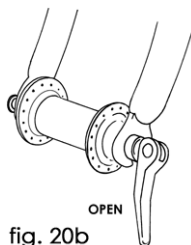
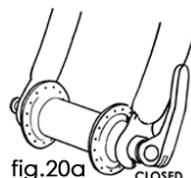

fig. 20b
fig. 20a
(2) Move the wheel's quick-release lever from the locked or CLOSED position to the OPEN position (figs. 20a & b).
(3) If your front fork does not have a secondary retention device go to step (5).
(4) If your front fork has a clip-on type secondary retention device, disengage it and go to step (5). If your front fork has an integral secondary retention device, loosen the tension adjusting nut enough to allow removing the wheel; then go to the next step.
(5) Raise the front wheel a few inches off the ground and tap the top of the wheel with the palm of your hand to knock the wheel out of the fork.
(1) Move the quick-release lever so that it curves away from the wheel (fig. 20b). This is the OPEN position.
(2) With the steering fork facing forward, insert the wheel between the fork blades so that the axle seats firmly at the top of the slots which are at the tips of the fork blades — the fork dropouts. The quick-release lever should be on the left side of the bicycle (fig. 20a & b). If your bike has a clip-on type secondary retention device, engage it.
(3) Pull the derailleur body back with your right hand.
(4) Move the quick-release lever to the OPEN position (fig. 20b).
(5) Lift the rear wheel off the ground a few inches and, with the derailleur still pulled back, push the wheel forward and down until it comes out of the rear dropouts.
(1) Shift the rear derailleur to its outermost position
(2) Pull the derailleur body back with your right hand.
(3) Move the quick-release lever to the OPEN position (see fig. 20a & b). The lever should be on the side of the wheel opposite the derailleur and freewheel sprockets.
(4) Put the chain on top of the smallest freewheel sprocket. Then, insert the wheel into the frame dropouts and pull it all the way in to the dropouts.
(5) Tighten the quick-release adjusting nut until it is finger tight against the frame dropout; then swing the lever toward the front of the bike until it is parallel to the frame's chainstay or seatstay and is curved toward the wheel (fig. 20b). To apply enough clamping force, you should have to wrap your fingers around a frame tube for leverage, and the lever should leave a clear imprint in the palm of your hand.
(6) If the lever cannot be pushed all the way to a position parallel to the chainstay or seatstay tube, return the lever to the OPEN position. Then turn the adjusting nut counterclockwise one-quarter turn and try tightening again.
(7) Push the rear derailleur back into position.
(8) Re-engage the brake quick-release mechanism to restore correct brake pad-to-rim clearance; spin the wheel to